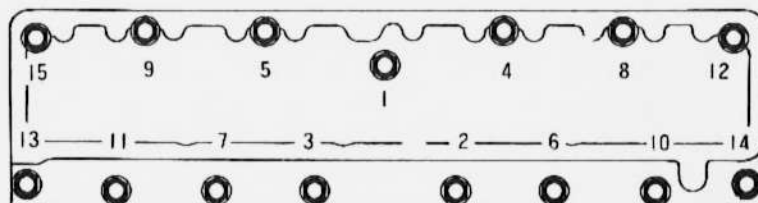

Figure 104 - Cylinder Head Bolt Tightening Diagram
(13) Tighten the cylinder head bolts a little at a time in order shown in Figure 104. The final tightening should be 85 to 95 foot pounds.